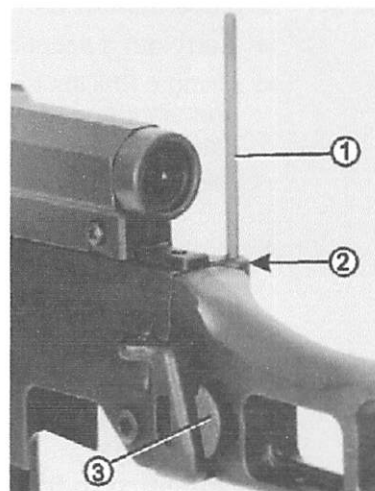

Fig. 67 Replacement of buttstock, compl.
- ⇒ Drive out clamping sleeve (Fig. 67/2) to the bottom, using drift punch for the buttstock (Fig. 67/1).
- ⇒ Undo the lock (Fig. 67/3) and remove buttstock.